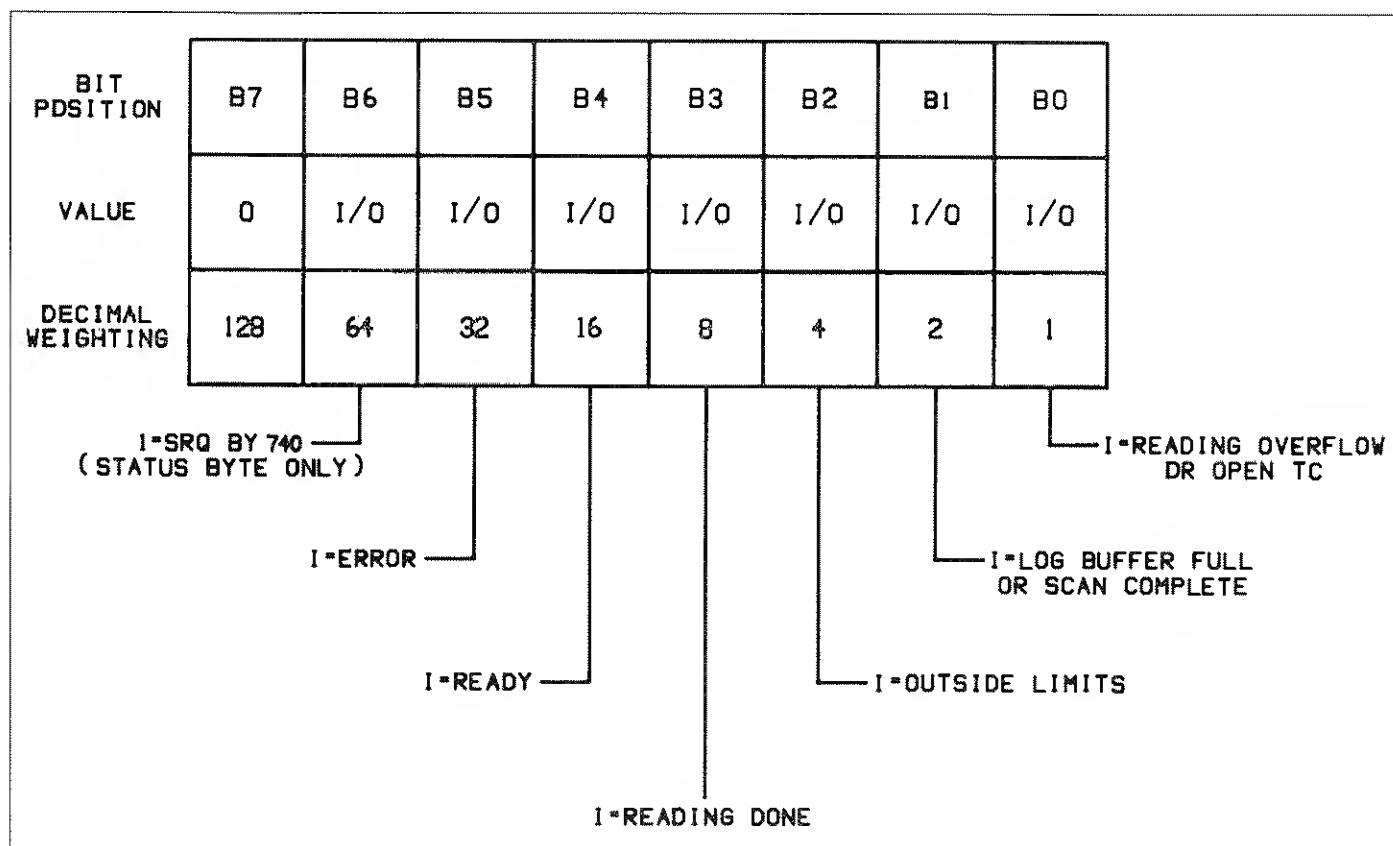

Figure 4-2. SRQ Mask and Status Byte Format
**SRQ Mask**—The Model 740 uses an internal mask to determine which conditions will cause SRQ to be generated. Figure 4-2 shows the general format of this mask, which is made up of eight bits. The SRQ has the same general format as the status byte (described below) except that bits 6 and 7 are not used in the SRQ mask.
**Serial Poll Byte Format**—The serial poll byte contains information relating to data and error conditions within the instrument. The general format of the status byte (which is obtained by using the serial polling sequence, as described in paragraph 3.9.8) is shown in Figure 4-2. Note that the various bits correspond to the bits in the SRQ mask as described above.